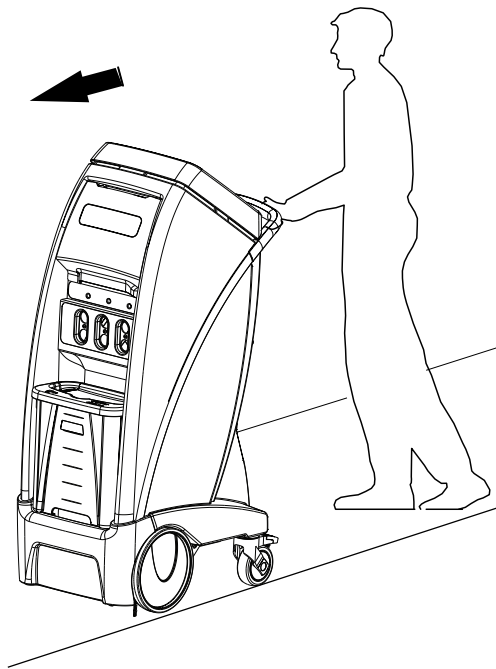

Figure 1-23: Transport position
3. Make sure to place the product with the ports facing the front (Figure 1-23 on page 1-37).